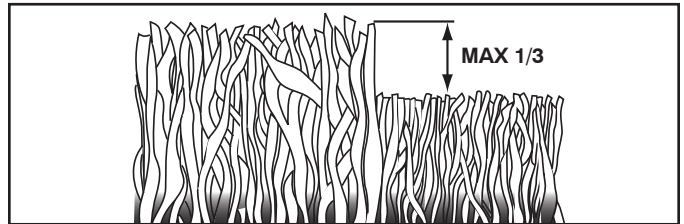

Fig. 30
- For best results, adjust the mower cutting height so that the mower cuts off only the top one-third of the grass blades (See Fig. 30). For extremely heavy mulching, reduce your width of cut on each pass and mow slowly.